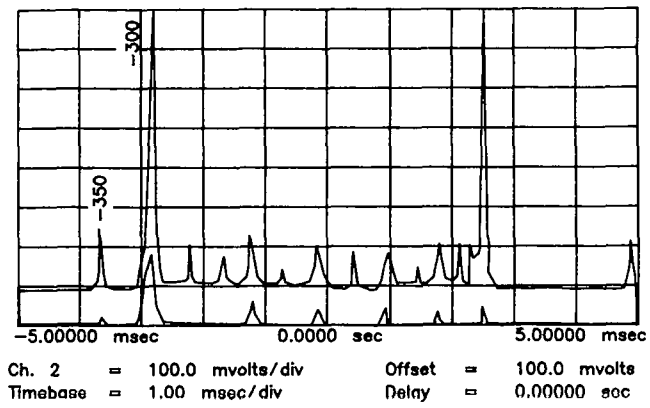

Figure 5-15d. Frequency Response of Notch Filters, 1015 MHz Setting.
14. Set the HP 8657B to a frequency of 1015 MHz and observe the oscilloscope Chan 2 display. The beat note levels should resemble those shown for channel 2 in Figure 5-15d. Adjust A4C85 to maximize the 300 MHz beat note while keeping the 350 MHz beat note at a minimum.